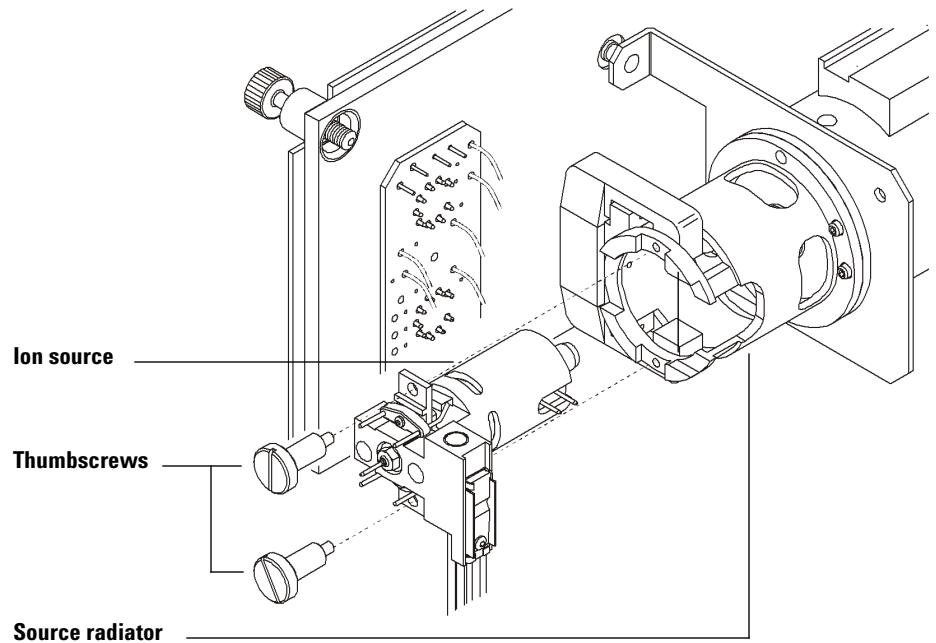

Figure 33 Installing the EI ion source
- 1 Slide the ion source into the source radiator (Figure 33).